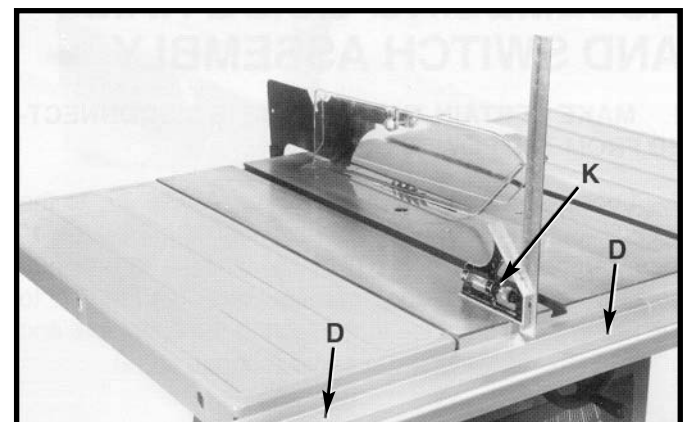

Fig. 45
6. **Before tightening the guide rail hardware**, proceed as follows: Beginning at the two sides of the saw table and using a square (K) Fig. 45, check to make certain the guide rail (D) is parallel with the saw table and extension wings. **Tighten all guide rail mounting hardware.**